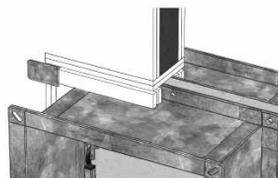

FIG.5
- 6 - Fill in the space between the wall and the damper using specifically sized plasterboard laths, using gypsum based adhesive to fill in any remaining holes (fig.5)